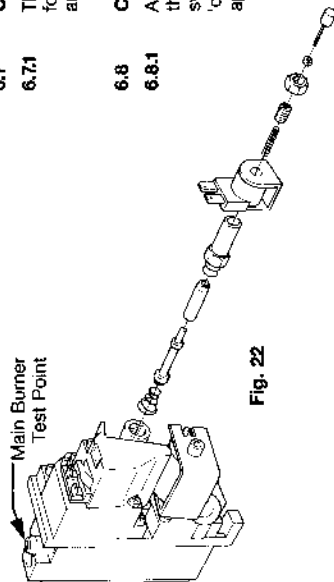

Fig. 22
6.6.4 Locate the main burner pressure test point (Fig 22) and slacken the screw half a turn in an anti clockwise direction. Attach a suitable pressure gauge. Turn on electricity supply and fully open a domestic hot water tap to operate boiler in dhw mode. Adjust hot water thermostat to maximum setting.